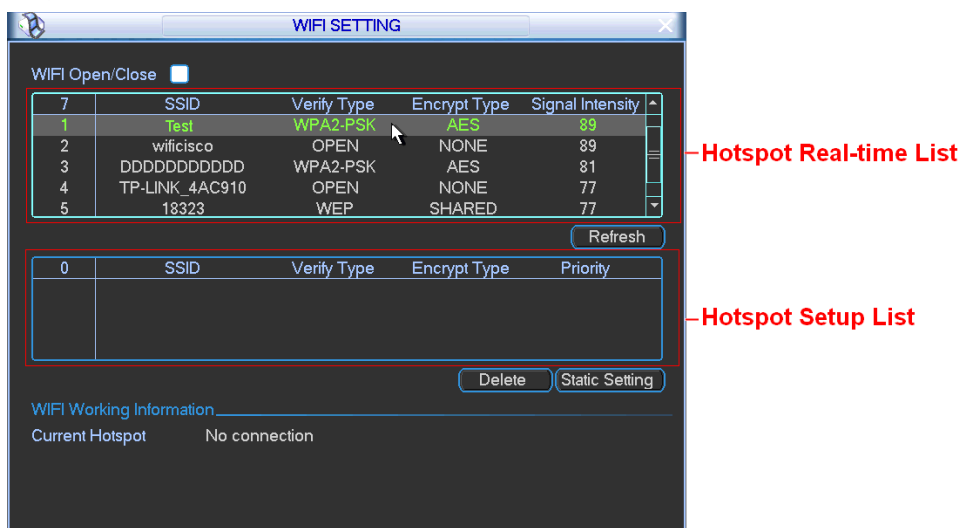

Figure 4-26
The WIFI interface is shown as below. See Figure 4-26.
- b) In Figure 4-26, click Refresh button to view the entire WIFI signals available.